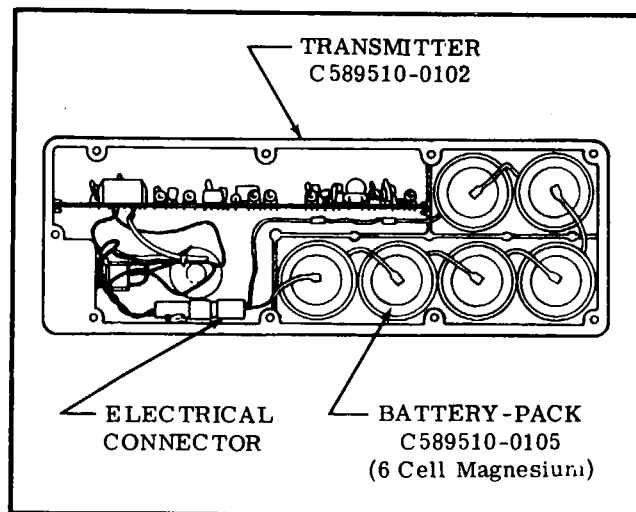

Figure 16-16. Magnesium 6 Cell Battery-Pack Installation
16-107. REMOVAL AND INSTALLATION OF MAGNESIUM SIX (6) CELL BATTERY-PACK. (Refer to figure 16-16.)